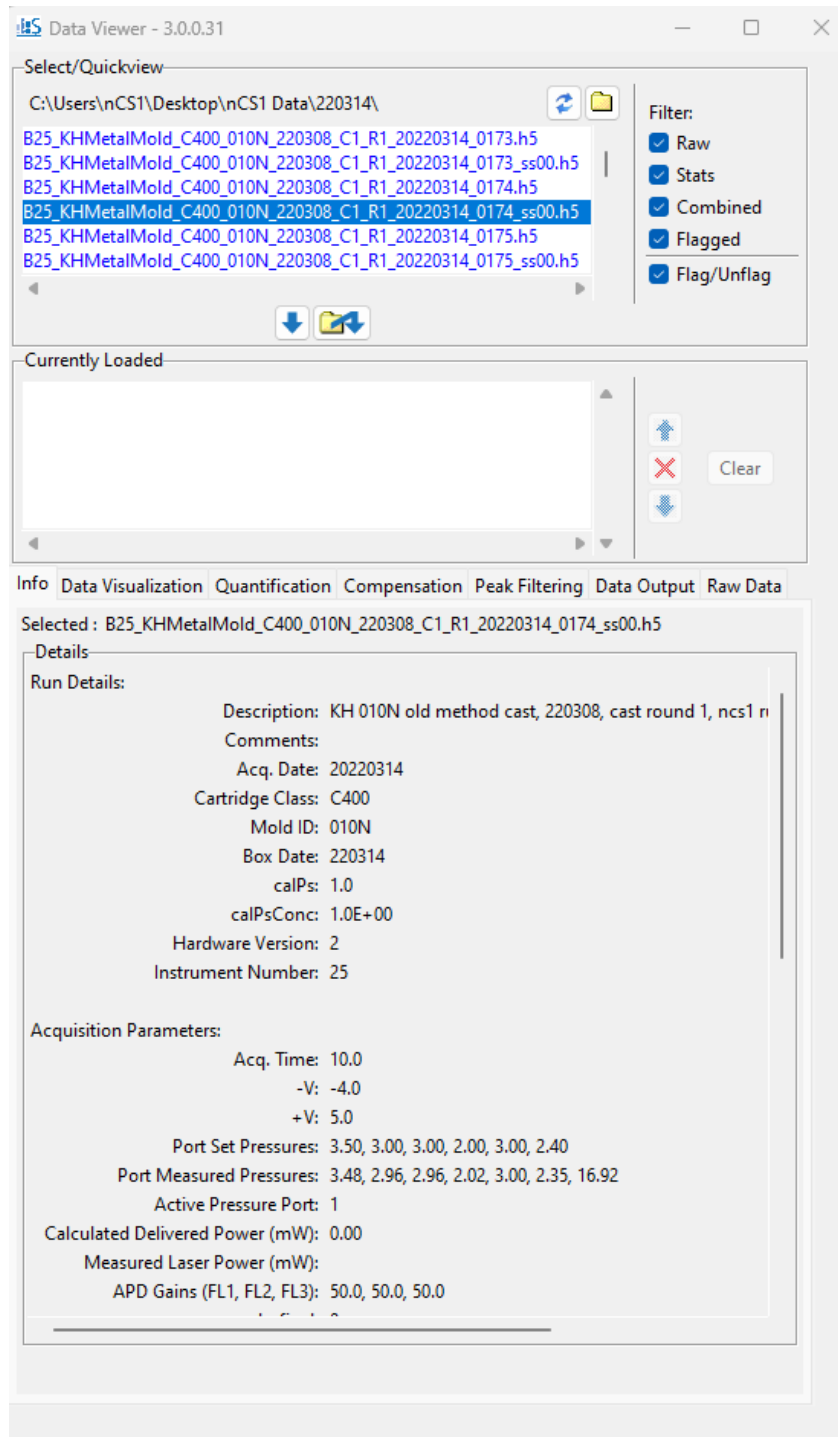

Figure 22. Overview of the Spectradyne Viewer software user interface.
- In the Select/Quickview frame (Figure 22), use the folder icon to the right of the current path to navigate to the location of the raw data.